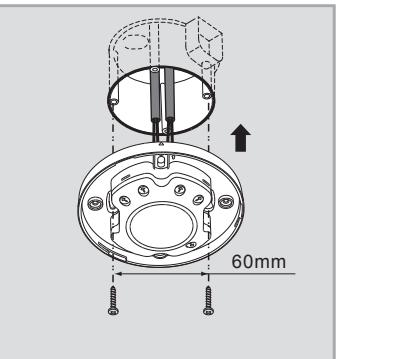
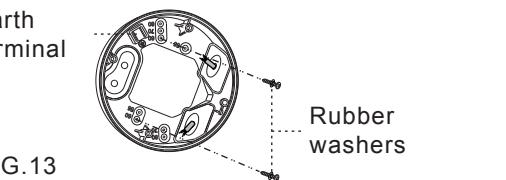

FIG.8
FIG.13
3.4.1.3 Please refer to illustration of FIG.8 for correct wiring and fix the power box into European standard junction box with 2pcs screws (See FIG.8).
- 3.4.3.3 Choose proper knockouts to fix the junction box on the surface of ceiling board with 2pcs wood screws attached with rubber washers (See FIG.13).
- 3.4.3.4 Refer to wiring diagrams for correct wiring connection (See FIG.5). There is a square hole in the fixing plate, when you put the fixing plate into the junction box, please fit the fillister to the junction box's protrusion (See FIG.8), then fix the detector head on the power box following FIG.13 and assemble them with the attached 4pcs non-dropping screws.